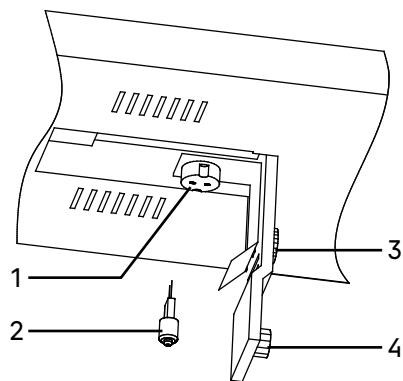

Fig. 21. Replacing the transmitted light bulb
- loosen the screw 4 and open the cover 3, as shown in Fig. 21